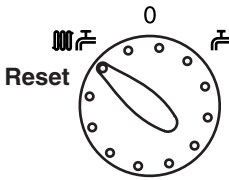

Fig. 4
4. **Position (i)** In this position the central heating will operate according to demand or provide domestic hot water when a tap or shower is turned on (Fig. 4). Priority is given to domestic hot water.